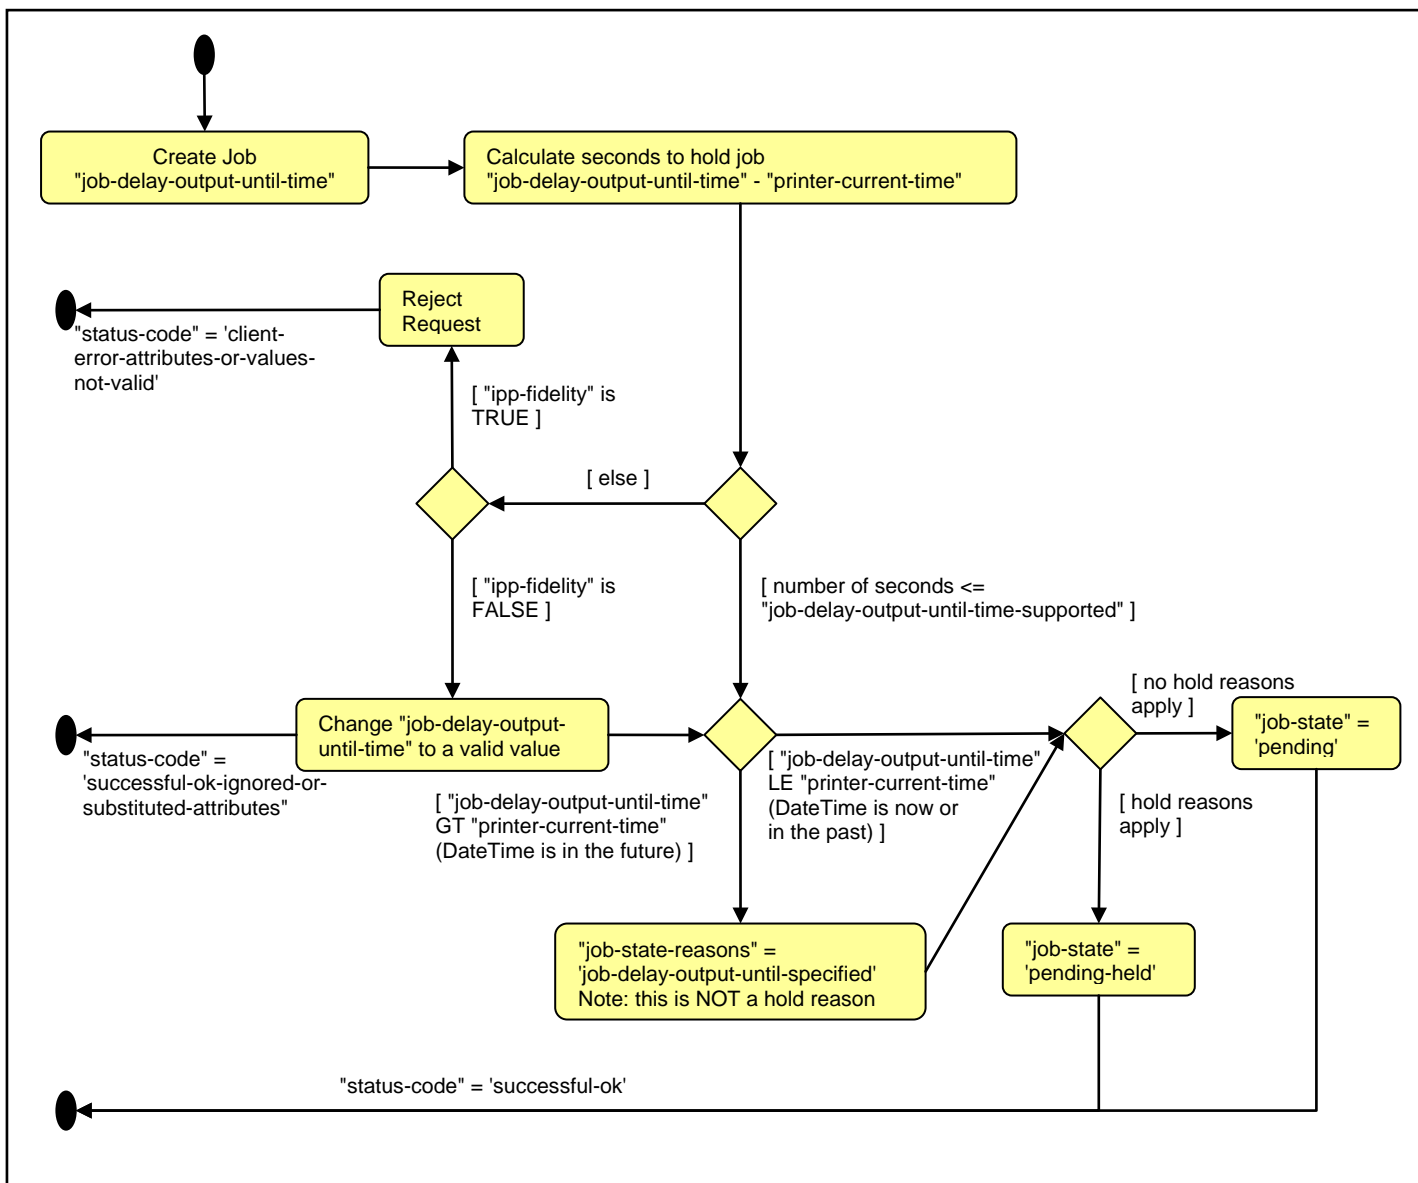
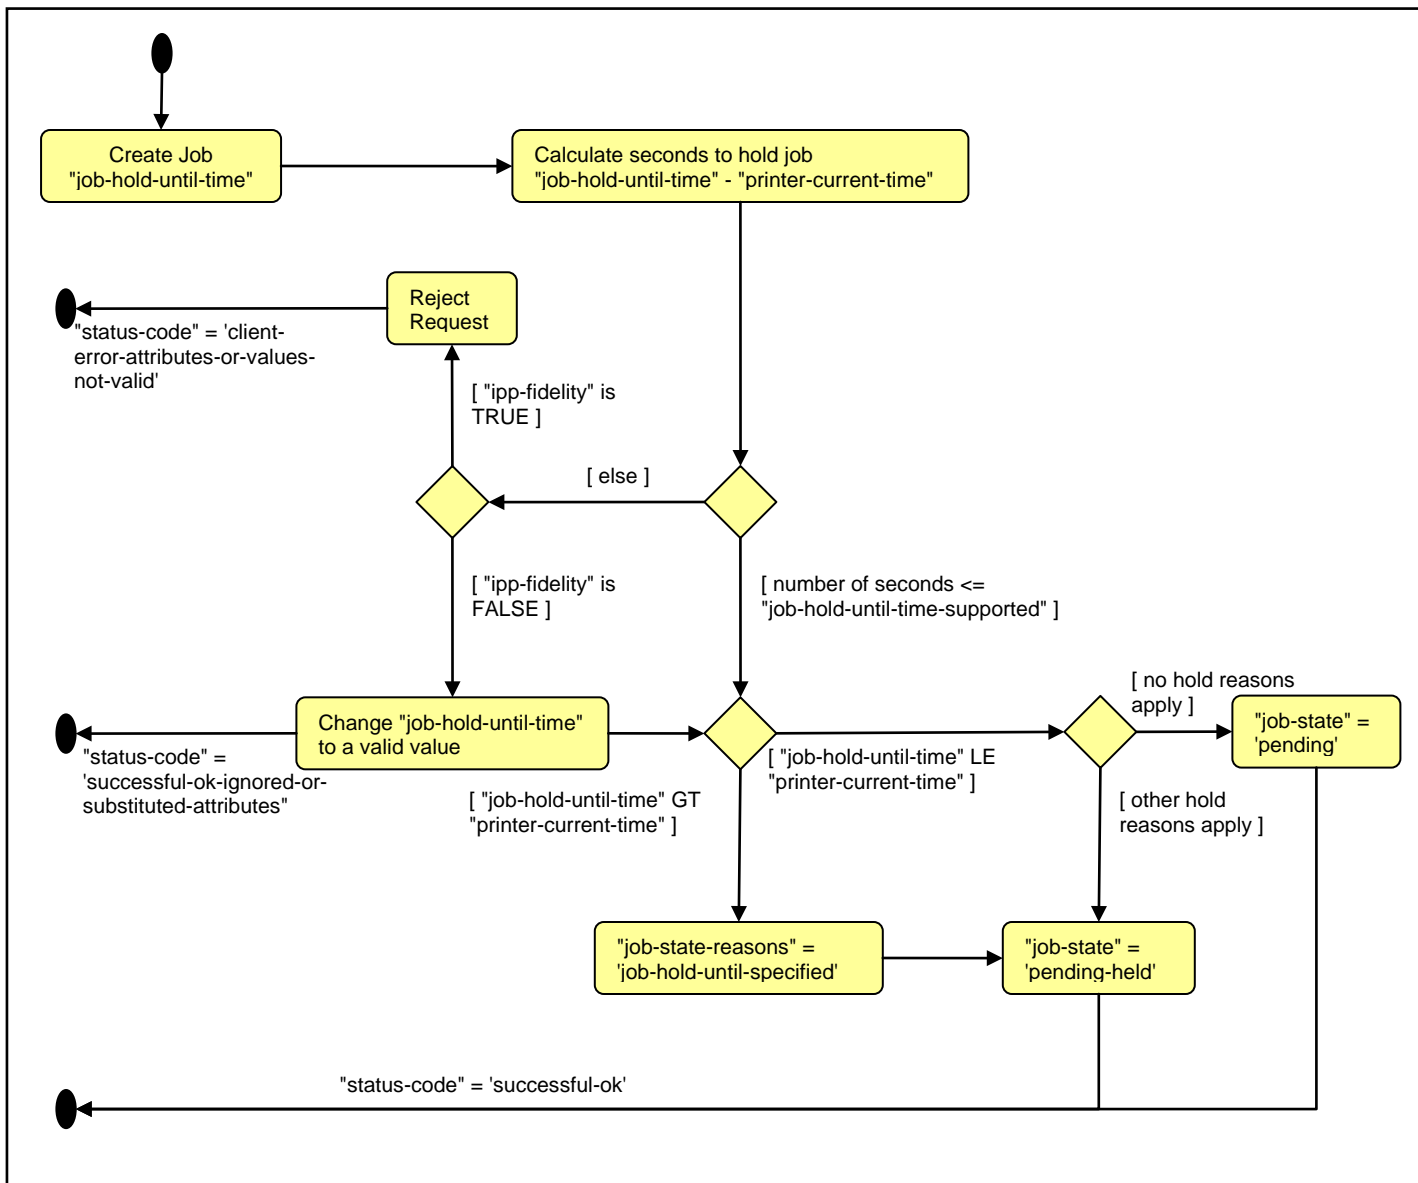
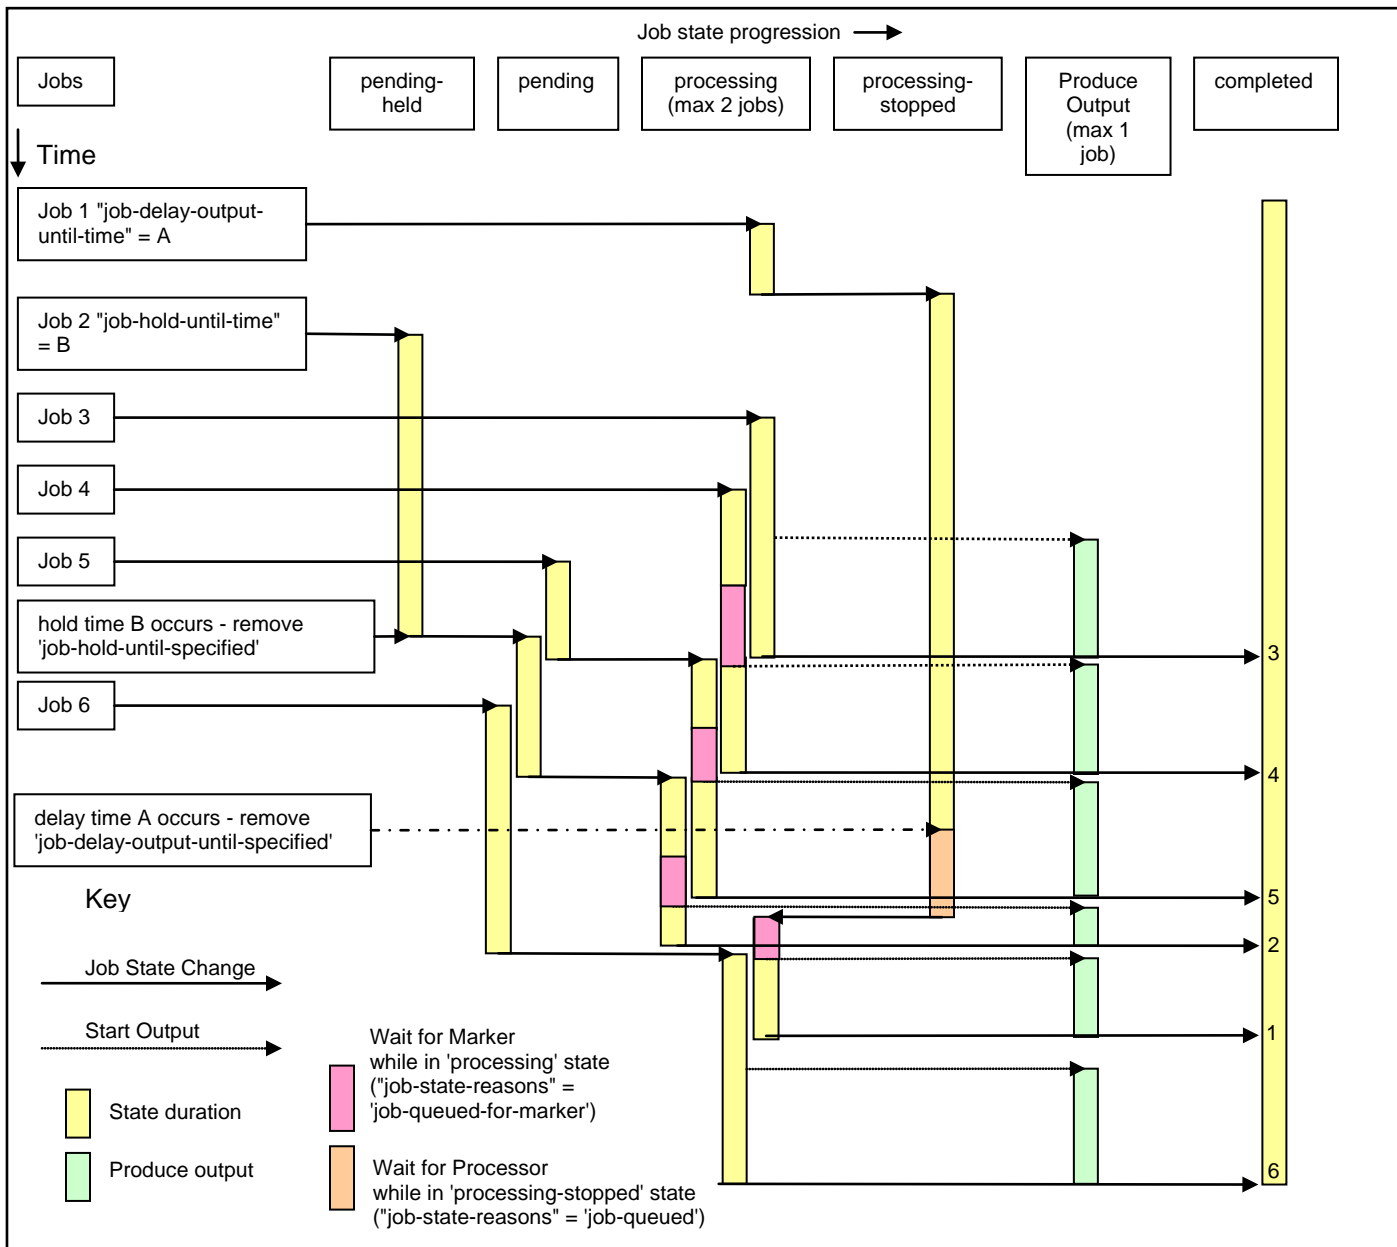

Figure 2 - Job Creation Operation Flow Diagram with "job-delay-output-until-time" specified
Figure 3 - Job Creation Operation Flow Diagram with "job-hold-until-time" specified
Figure 4 - Time Sequence Diagram for 1 Hold, 2 Delay Output, and 4 normal Jobs
A Flow Diagram for Job Creation with the "job-delay-output-until-time" attribute is shown in Figure 2 below. A Time Sequence Diagram for a job with "job-hold-until-time", a job with "job-delay-output-until-time", and 4 ordinary print jobs is shown in Figure 4 below. The semantics of the "job-delay-output-until-time" attribute are similar to the "job-hold-until-time" Job Template attribute (see Section 7.6 and Table 6, except that for the "job-delay-output-until-time" attribute the job is not put into the 'pending-held' state while waiting for the date and time to occur. Instead, the
A Flow Diagram for Job Creation operations with the "job-hold-until-time" attribute is shown in Figure 3 below. A Time Sequence Diagram for a job with "job-hold-until-time", a job with "job-delay-output-until-time", and 4 ordinary print jobs is shown in Figure 4 below. A Hold Job request is sent by the Client with a "job-hold-until-time" value specified as a dateTime. The Printer calculates the number of seconds between the "job-hold-until-time" value and the "printer-current-time" value. If this number of seconds is NOT in the range specified by the Printer's "job-hold-until-time-supported" attribute value, then the Printer either:
Figure 4 below shows a Time Sequence Diagram for an implementation of 6 jobs, where Job 1 is a Job Delay Output Job that processes the job partly before the delay date-time arrives, Job 2 is a Hold Job, and Jobs 3 through 6 are ordinary print jobs that complete successfully. Jobs 3-5 are submitted before either of the Job Hold Time (B) and the Job Delay Time (A) occurs. Job 6 is submitted after the Job Hold Time (B) but before the Job Delay Time (A) occurs. OPTIONAL "job-state-reasons" values are shown in parenthesis.